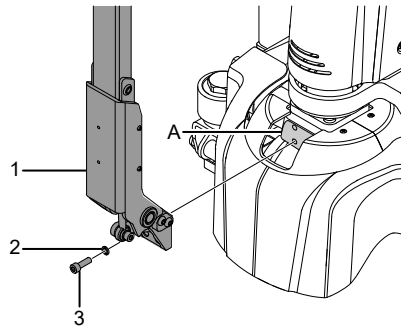

Fig. 3. Tiller arm assembly — securing the tiller arm
2. Connect the electrical connectors of the truck body harness, as indicated in figure 3 (pos. 4) and the tiller harness (pos. 5) paying attention to ensure alignment. Fix the harness securely using the cable clamp (pos. 6) and the screw (pos. 7).